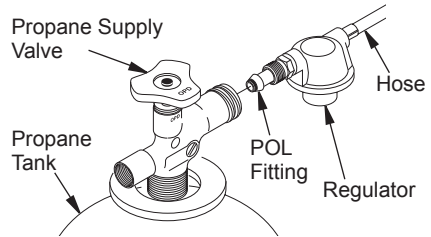

Figure 6 - Regulator Position
2. Connect POL fitting on hose/regulator assembly to propane tank(s). Turn POL fitting counterclockwise into threads on tank. Tighten firmly using wrench. **IMPORTANT:** Position regulator so that hose leaving the regulator is in a horizontal position (see Figure 6). This places the regulator vent in the proper position to protect it from the weather.